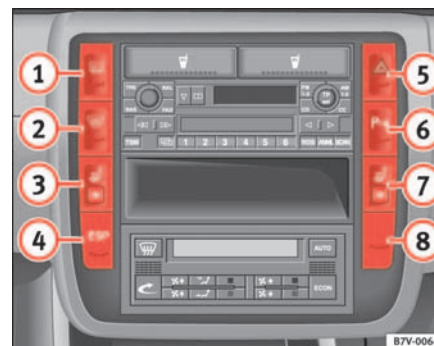

Fig. 88 Seat heating controls
- Turn the appropriate switch ⇒ **fig. 88** to switch on the seat heating. The seat heating is switched off in the **0** position.